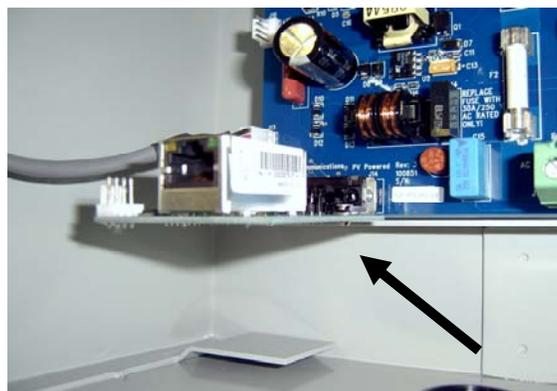

Figure 2
4. Insert the PVM1010 printed circuit board's DB-9 connector into the J14 connector (labeled RS232) of the inverter power board (*Figure 2*).